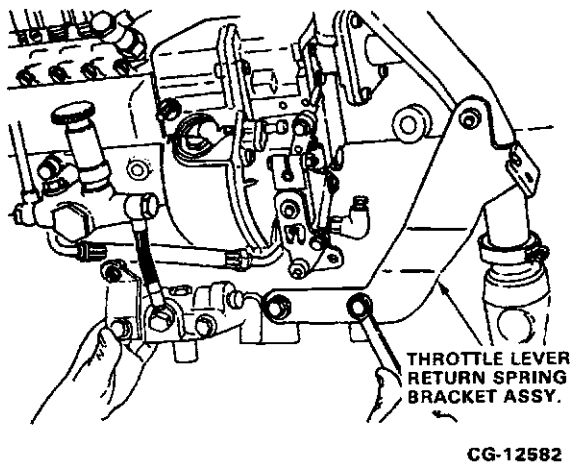

Figure 11.136. Install Throttle Lever Return Spring Bracket (Current Production)
12. Mount the throttle lever return spring bracket to the crankcase using the two mounting bolts and washers. Refer to Figures 11.136 and 11.137.